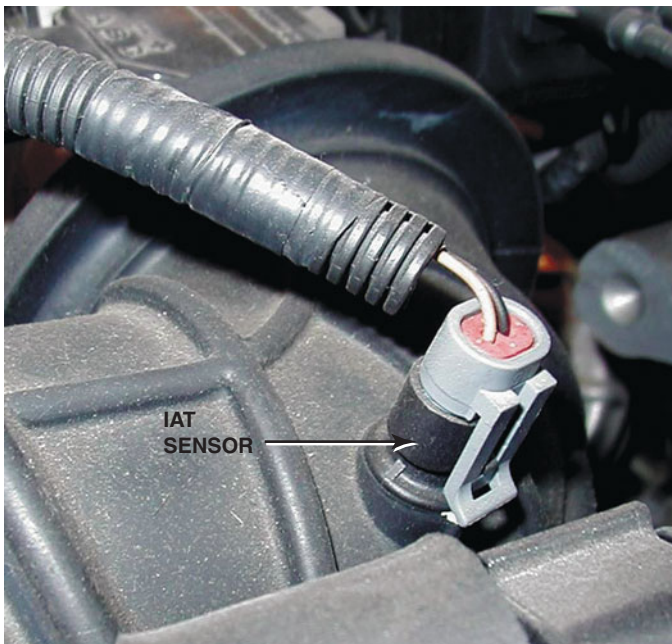

FIGURE 28-8 The IAT sensor on this General Motors 3800 V-6 engine is in the air passage duct between the air cleaner housing and the throttle body.
- In the air duct between the air filter and the throttle body, as shown in ● **FIGURE 28-8**